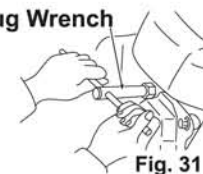
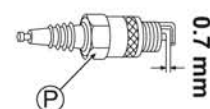

Fig. 31
Fig. 32
2. Remove Ignition plug (P) with the attached plug wrench. (See Fig. 31)
3. Exchange Ignition plug (P) if a great amount of carbon is adhered to it or its insulator is cracked or damaged.
4. Remove the carbon adhered to the electrode, and adjust the electrode clearance to 0.7 mm. (See Fig. 32)
5. Install Ignition plug (P) and Plug cap (Q).